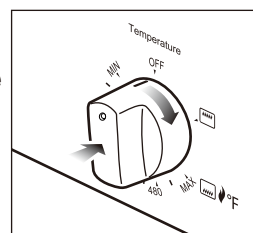

Fig.4
2) Turn the knob to the  position, Fig.4. the oven automatically ignites, and it lights within 5.5 seconds; if it can't be lighted for the first time, it will ignite again after 12 seconds, and lights within 5.5 seconds; If it can't be lighted after repeating for 3 times, you need to reset the knob to OFF and then turn it on again.